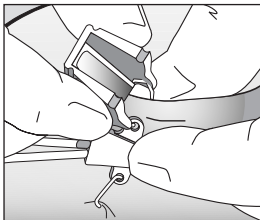

Figure 1
4. Pass staple point through eye of catheter suture hub (refer to Figure 1).